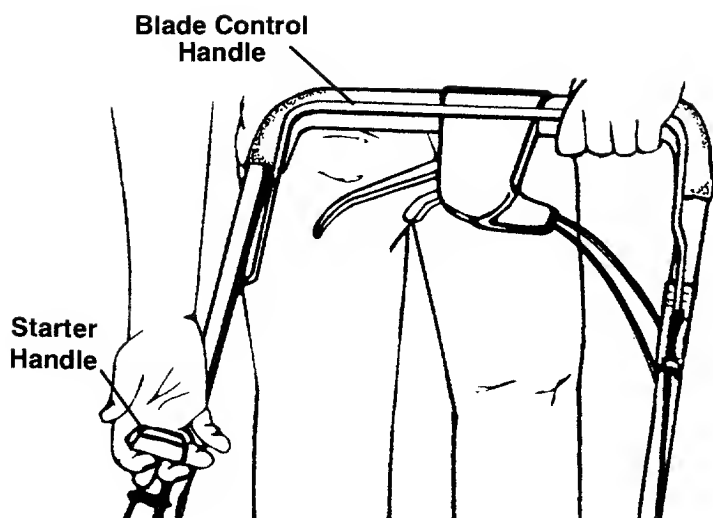

FIGURE 8.
- Hold blade control handle against upper handle. See figure 8. Grasp starter handle and pull rope out slowly until engine reaches start of compression cycle (rope will pull slightly harder at this point). Let the rope rewind slowly.